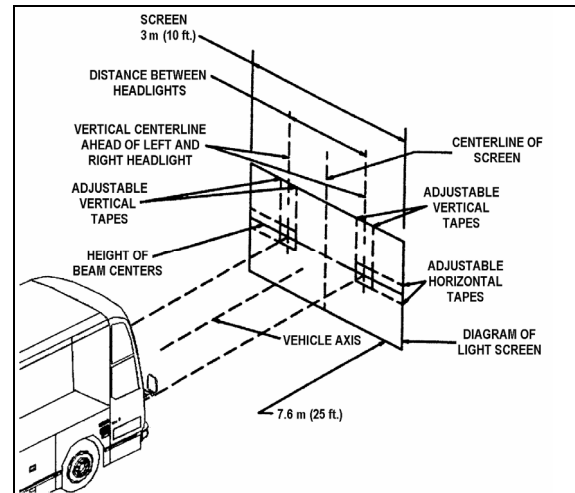

FIGURE 31: ALIGNMENT OF HEADLIGHT AIMING SCREEN
- The headlight centerlines shall be spaced either side of the fixed centerline on the screen by $\frac{1}{2}$ the lateral distance between the light source centers of the pertinent headlights. The horizontal tapes should be located on the screen at the upper and lower limits called for in the specification with reference to the height of beam centers and the plane on which the vehicle rests, not the floor on which the screen rests (Fig. 31).